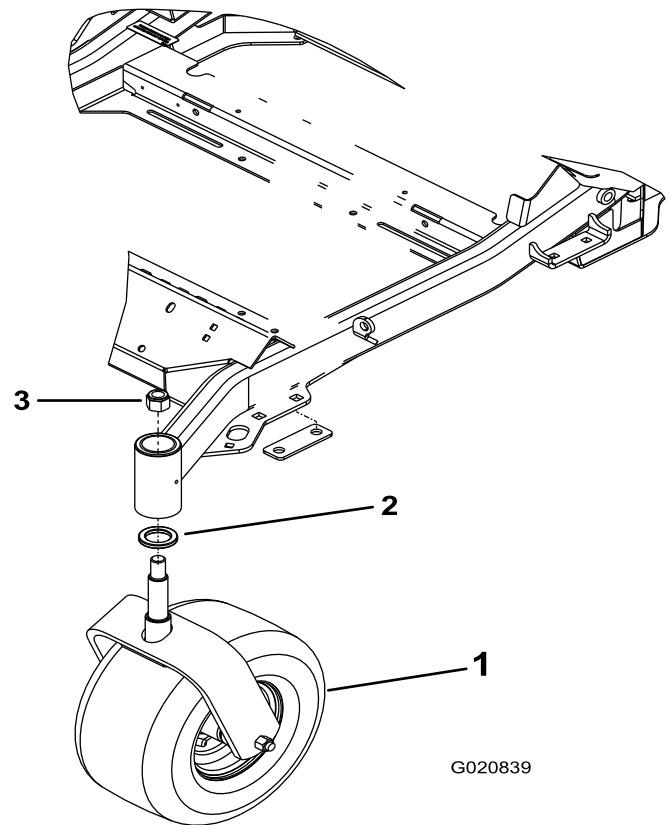

Figure 4
1. Insert the grease seal into the frame (Figure 4).
2. Assemble the caster wheel assembly into the frame and install the locknut (3/4 inch) as shown in Figure 4.